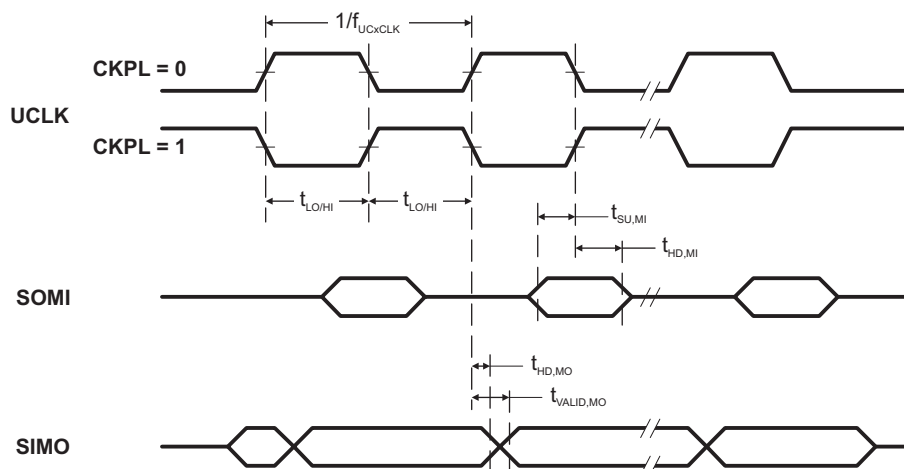
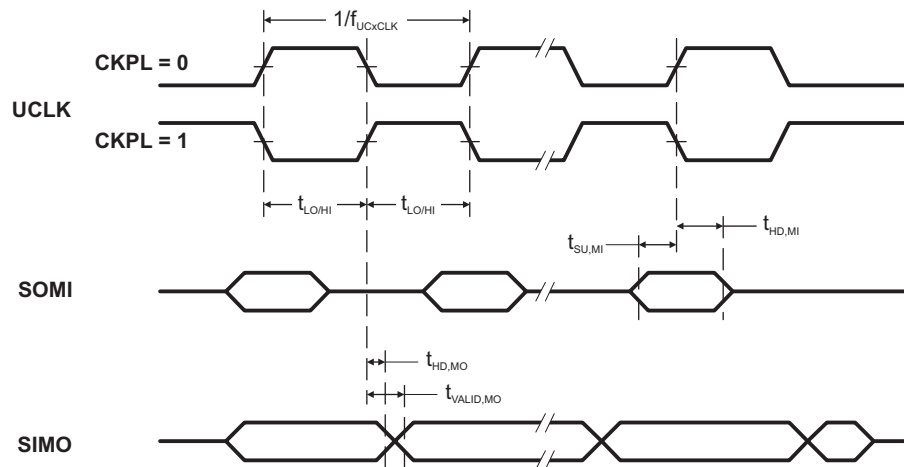

Figure 11. SPI Master Mode, CKPH = 0
Figure 12. SPI Master Mode, CKPH = 1
(see Note ⁽¹⁾, Figure 11 and Figure 12)
- (2) Specifies the time to drive the next valid data to the SIMO output after the output changing UCLK clock edge. Refer to the timing diagrams in Figure 11 and Figure 12.
- (3) Specifies how long data on the SIMO output is valid after the output changing UCLK clock edge. Negative values indicate that the data on the SIMO output can become invalid before the output changing clock edge observed on UCLK. Refer to the timing diagrams in Figure 11 and Figure 12.
(2) Specifies the time to drive the next valid data to the SOMI output after the output changing UCLK clock edge. Refer to the timing diagrams in Figure 11 and Figure 12.
(3) Specifies how long data on the SOMI output is valid after the output changing UCLK clock edge. Refer to the timing diagrams in Figure 11 and Figure 12.